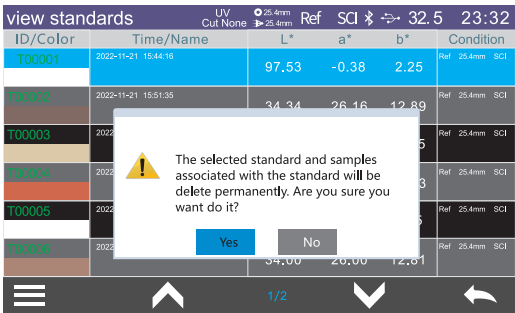

Figure 37 Delete Record
- Click  to view the sample interface menu, Click "Delete" again to enter the record deletion reminder interface, as shown in Figure 37. Click "Yes" to confirm deletion; Click "No" to cancel the deletion and return to the "View Standards" interface